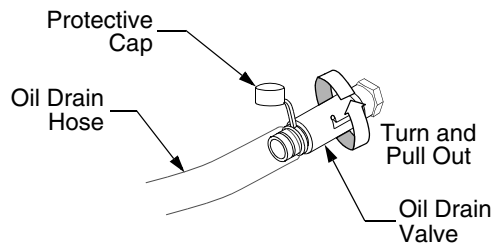

Figure 21
- Pop open the protective cap on the end of the oil drain valve to expose the oil drain port. See Figure 21.
- Push the oil drain valve in slightly, then rotate counterclockwise and pull outward to begin draining oil. See Figure 21.